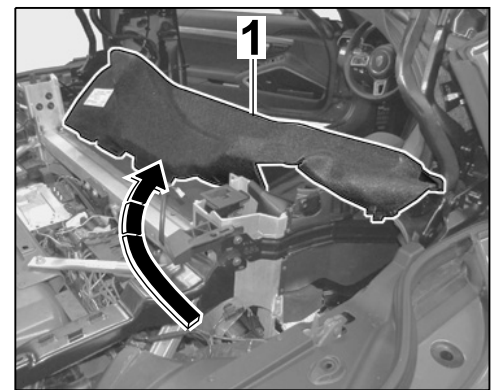

Figure 7
1.6.7 Loosen trim panel for convertible top compartment at the right side ⇒ *Figure 7-1-* and set it aside ⇒ *Figure 7-arrow-*.